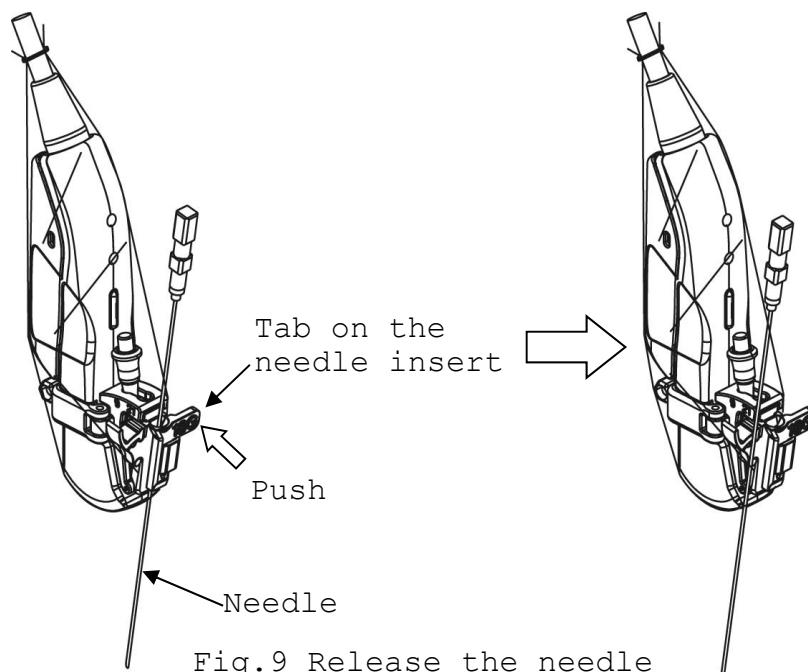

Fig.9 Release the needle
- 7) In the case of the CIVCO Ultra Pro II, when the needle is released quickly from probe, press the tab on the needle insert toward the bracket. Move bracket and needle guide away from the needle. (See Fig.9)